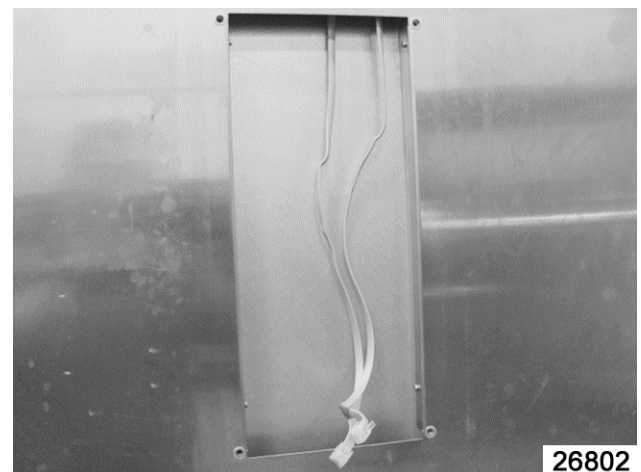

Fig. 73
4. Route conduit cables through top of door into the controls department. The cables should not extend below control opening in the control door (Fig. 73). Gently pull any excess slack in control cables to the top of unit by pulling on wires at short end of control conduit inserted through lower section of upper trim.